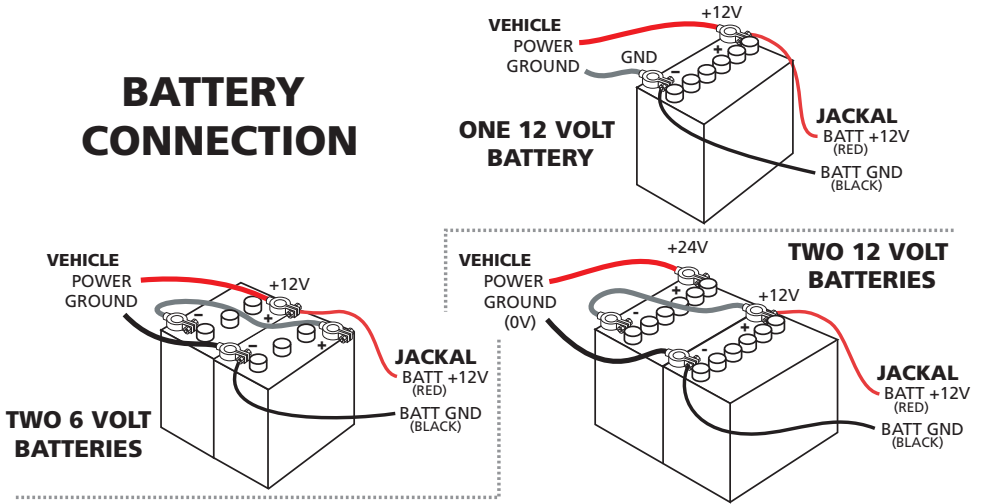

Figure 3: Correct battery connection for possible battery configurations
- Ensure that the battery connection to the Jackal is 12V as shown in figure 3.